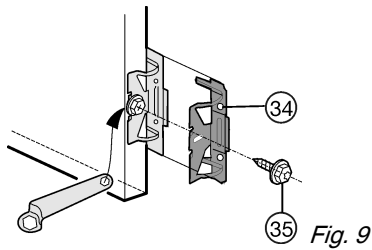

Fig. 9
- ▶ Screw all the mounting brackets *Fig. 9 (34)* to the pre-drilled holes in the appliance door using hexagon screws *Fig. 9 (35)*.
- ▶ fit a 3rd pair of mounting brackets *Fig. 9 (34)*.